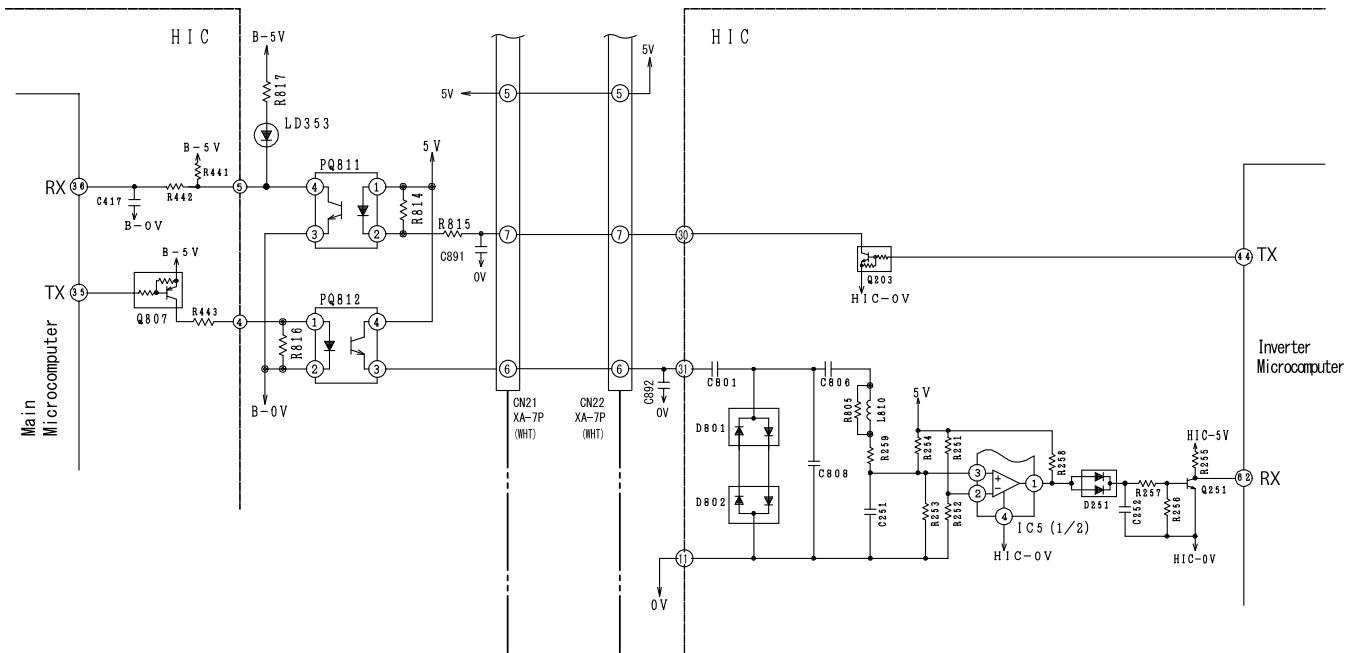

Fig. 7-1
- This unit uses two microcomputers: a main microcomputer and an inverter microcomputer. The two-way communication circuit shown in Fig. 7-1 is used for communication between these two microcomputers.